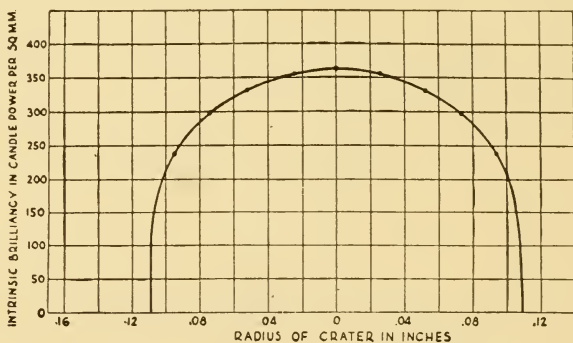

FIG. 95.—Intrinsic brilliancy across crater face; 8-mm. a-c. high-intensity carbons, 80 amperes, 25½ volts.
It is interesting to note that the shape of the highly luminous portion of the arc near the electrodes approximates the shape of the intrinsic brilliancy curve across the face of the crater reproduced in Fig. 95. (128) This highly luminous portion of the arc close to the electrode decreases in size as the current is decreased. It becomes very small at the lower current-densities, as illustrated in Fig. 93. The result gives a much lower intrinsic brilliancy curve and less light on the screen.